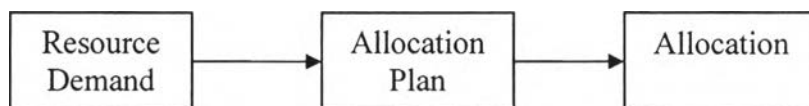

Figure 3.1: The exiting model
As Mechanical Department (MD) has no model of its human resource allocation, the existing model gained from the Chief of Mechanical Department (CMD) who is responsibility of all projects under the MD. The resource allocation planning comes from the Chief of Mechanical Project Department (CMPD) of both projects who plan the allocation related to resource usage of the work in the project schedule. Then the planning of both projects is collected to allocate the resource to the projects following CMPD's plans. The exit model can be divided into three steps: Resource Demand; Allocation Plan and Allocation. Figure 3.1 shows the exiting model.